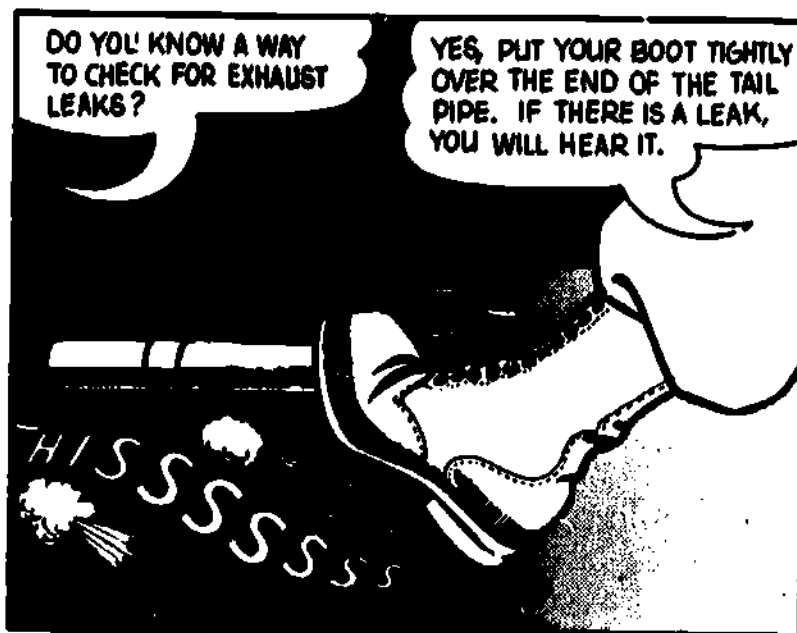

Fig 5-18. Checking exhaust leaks.
- (1) Exhaust leaks (fig 5-18). Exhaust gas leaks are your biggest problem. You must make sure that you find and make a note of all of them, regardless of how small they are. Bad leaks make a lot of noise, so you can easily locate the general area from which they are coming. Small leaks can be heard if you momentarily plug the tailpipe outlet. This causes any leaks to make a hissing noise due to back pressure building up in the exhaust system. After you find the general area of the leak, hold your hand near the suspected leak. Escaping gases may be felt striking your hand. But be careful that you don't get your hand too close and get burned.